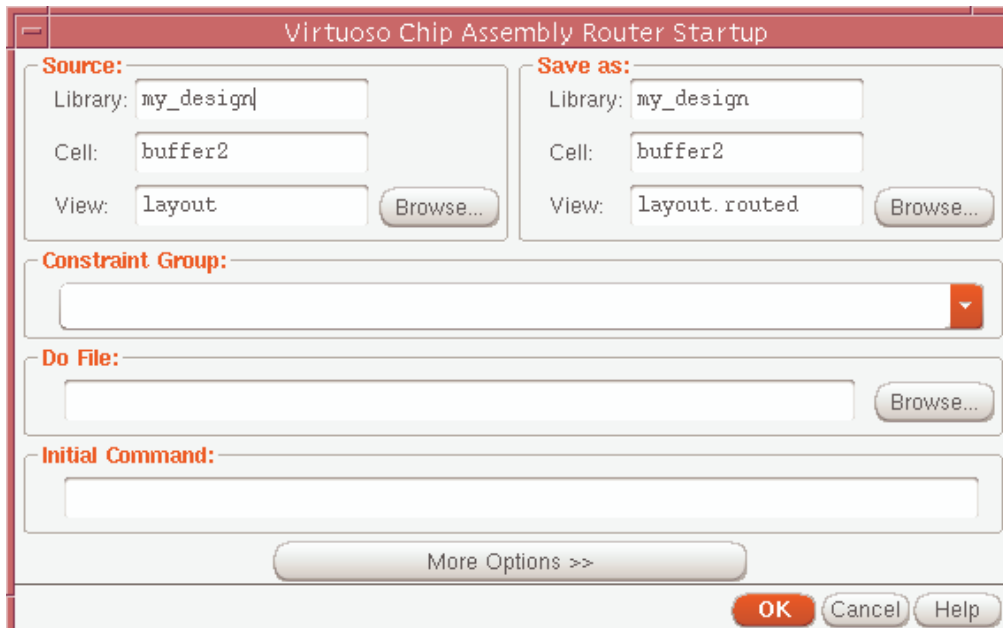

FIG. 33 Setup for VCAR
2. Specify the routing view name in the popup window to initiate the VCAR (Fig 33).